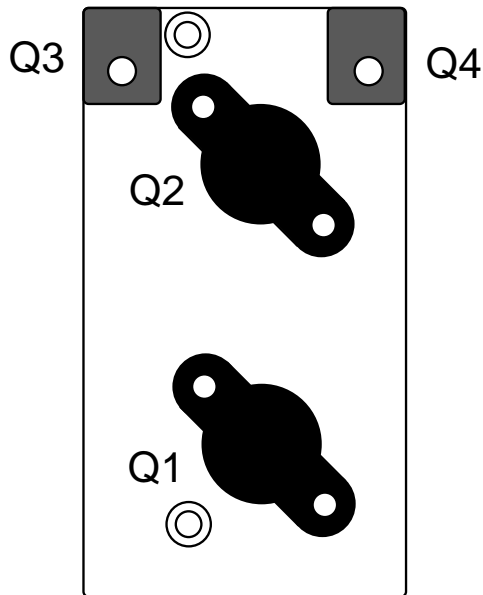

Figure 36
- Locate the two TO-126 thermal pads (rectangular, gray). Remove the adhesive backing, then attach them to the heat sink pedestal (adhesive side down) at the locations marked Q3 and Q4 in Figure 36. Center each pad over its associated hole.